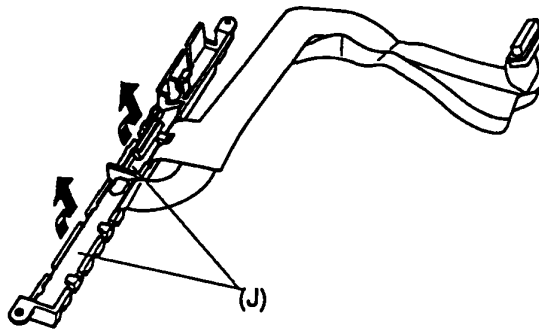

Figure 4-17 Removing the LED board and display flex cable
7. Unsnap the latches (K) securing the LED board (J) to the LED holder. Then unsnap the latch (L) securing the display flex cable (M) to the LED holder. Remove the LED board and display flex cable from the LED holder (Figure 4-17).
1. Place the display flex cable in the LED holder and make sure the latch secures it in place (Figure 4-17).
2. Place the LED board in the LED holder and make sure the latches secure it in place (Figure 4-17).